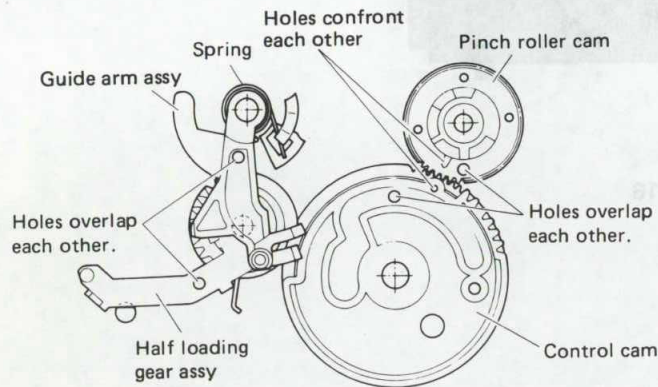

Fig. 2-3-18
4. Housing installation (Refer to Figs. 2-3-18 and 2-3-19.)
- 1) On the main deck, observe the positional relationships of the parts indicated in Fig. 2-3-18. If necessary, turn the mode motor by hand to obtain these positions.